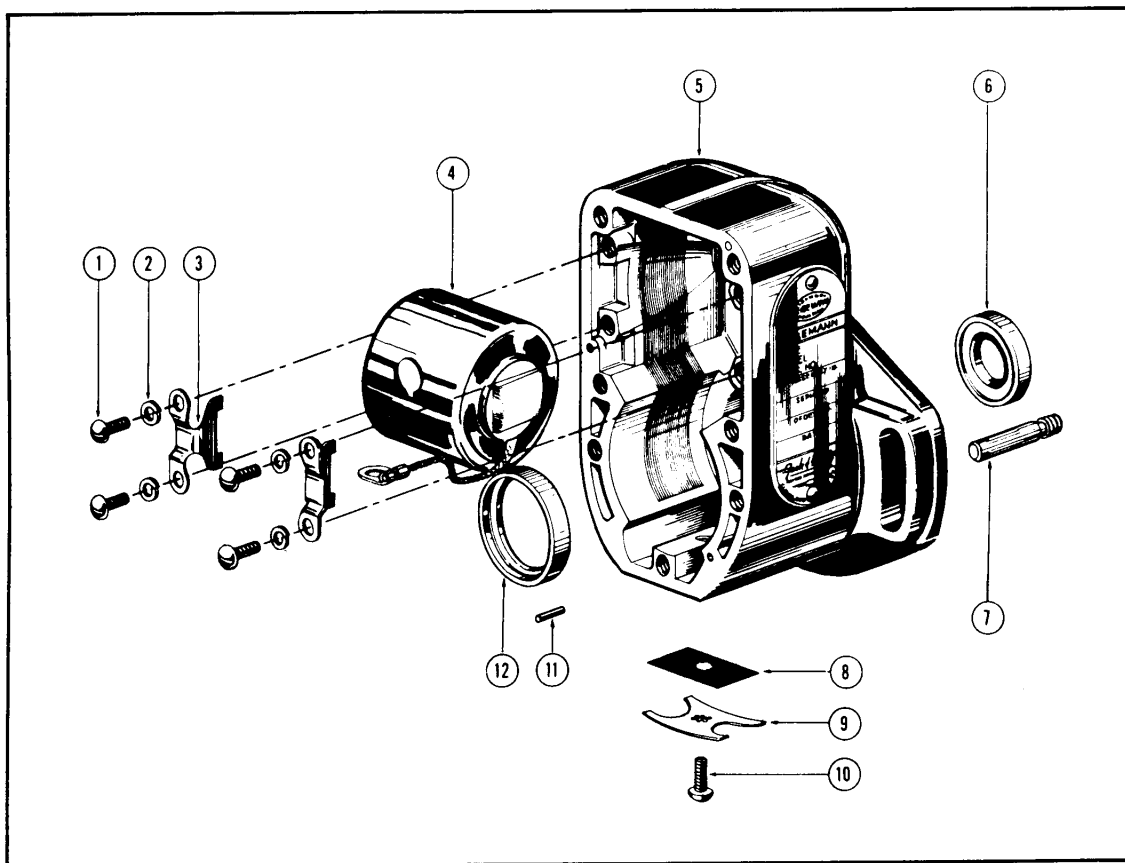

Figure 18. Housing Assembly
(See figure 18). Remove the four screws (1), lockwashers (2) and the two coil clamps (3).